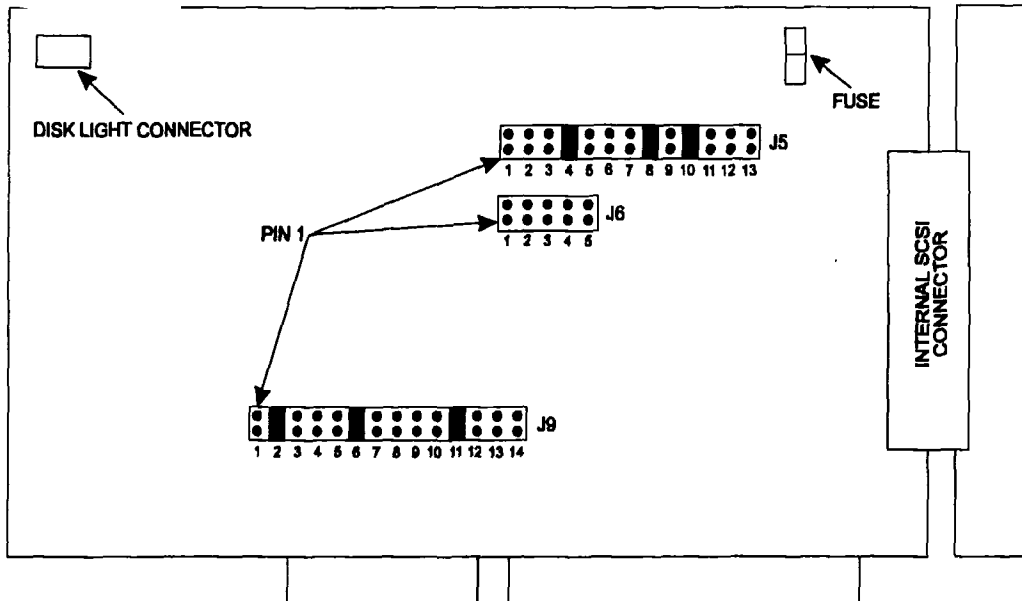

Figure F-3. Jumper Configuration for Host Adaptec AHA-1540B SCSI Adapter
- * Adaptec AHA-1540B SCSI board setup as (refer to figure F-3):